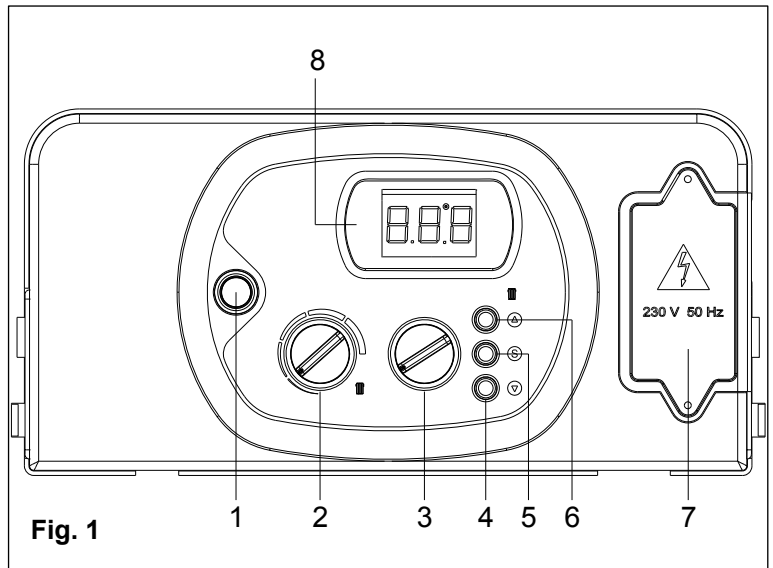

Fig. 1
- **The automatic ignition system will then light the burner. This operation is repeated for 3 times (every 20 seconds) in case of the boiler should fail to ignite.** It may however be necessary to repeat the operation in order to eliminate all the air from the pipes. To repeat the operation, wait approximately three minutes before re-attempting to light the boiler. To reset the boiler switch off switch **1** (fig. 1) and switch it back on again and repeat the lighting procedure;